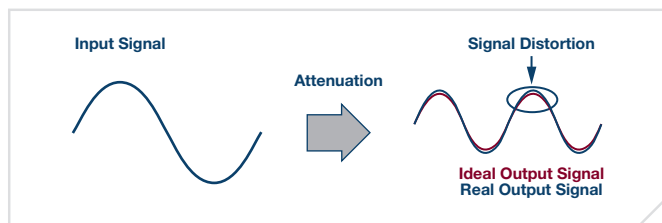

Figure 12. Total harmonic distortion.
**THD**—an ac signal applied to the terminals of a digiPOT will cause variation in the internal switch,  $R_{ON}$ , leading to some nonsymmetrical attenuation and, therefore, signal distortion (see Figure 12). Choosing a high end-to-end resistor option reduces the contribution of the internal switches' resistance vs. the total resistance, leading to better THD performance. Table 3 shows some typical THD performance values.